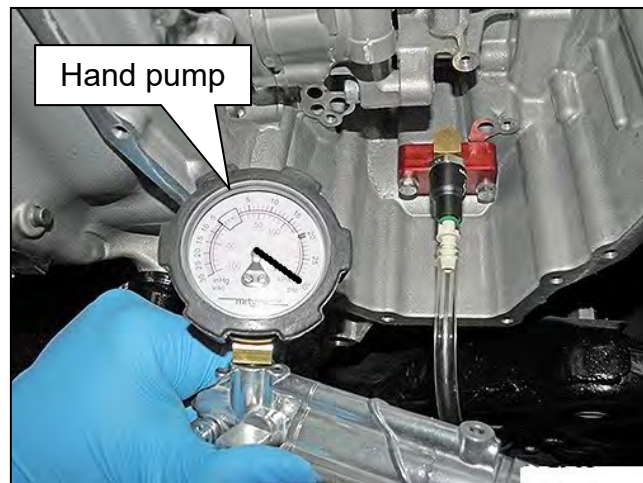

Figure 31
- b. Connect the Hand pump from Evap Pressure Test Kit (J-42909) to the Clutch Engagement Tool (J-52273) and pump to 30 PSI (Figure 31).